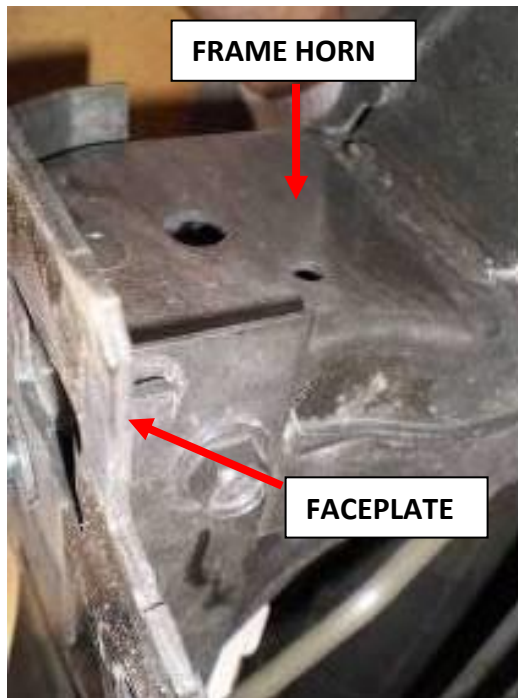

Figure 7. Remove faceplate before cutting welds on crossmember.
8. Remove the bolts that attach the faceplate (**Figure 7**) to the crossmember. Once the bolts are removed, you can lift the faceplate off so that only the crossmember is left.